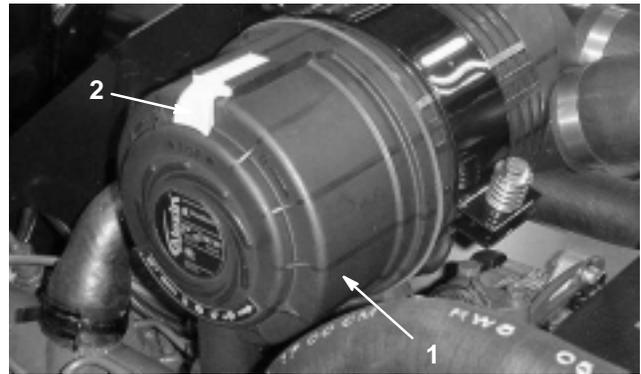

Figure 42
1. Release the latches securing the air cleaner cover to the air cleaner body (Fig. 42).